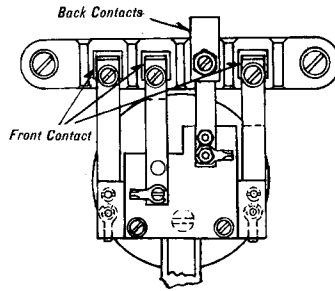

Fig. 5—One Back and Three Front Contacts
- (b) One back and three front contacts (Figures 5 and 12).